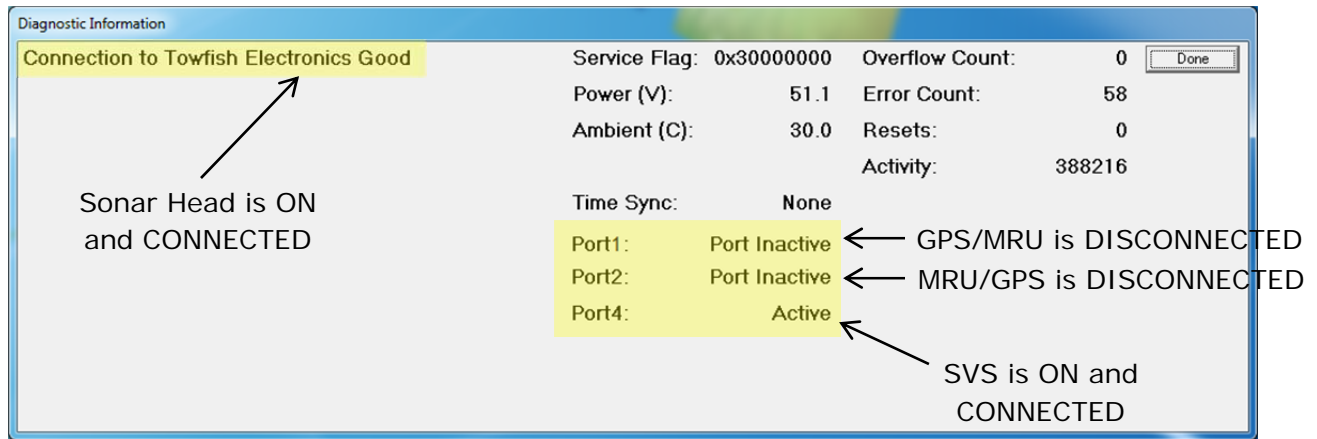

Figure 17: Diagnostic Information Window
**Note:** If at any time, one or more of the systems (i.e. GPS, MRU, Sonar Head) have been disconnected or are not sending data to DISCOVER while the Sonar Head is turned on, a window (Figure 17) will appear displaying the unavailable system(s).